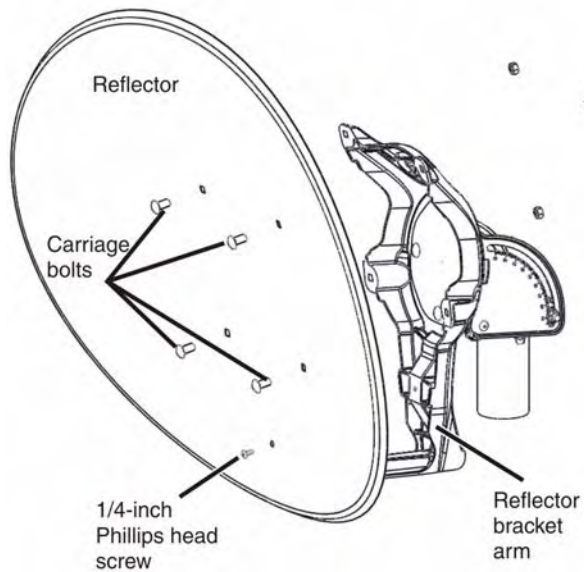

Figure 12: Attaching the antenna reflector
1. Hold the reflector against the reflector bracket so that the tailpiece notch is near the reflector bracket arm, as shown in Figure 12.